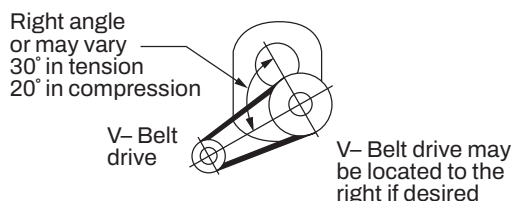
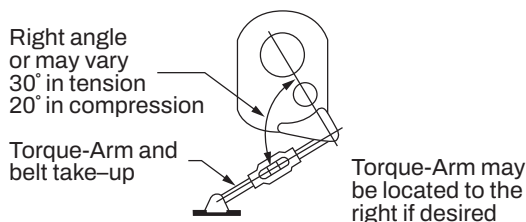

Figure 3 - Installation of Motor and V-Belt Drive
Figure 4 - Tighten Belt with Torque-Arm Screw
5. Install motor and V-belt drive so belt will approximately be at right angles to the center line between driven and input shaft. (See Fig. 3.) This will permit tightening the V-belt with the Torque-Arm screw. (See Fig. 4.) Make sure that there is sufficient take-up in the turnbuckle for belt tension adjustment when using V-belt drive
6. Install Torque-Arm and adaptor plates using the long reducer bolts. The bolts may be shifted to any of the holes on the input end of the reducer. Fig. 3